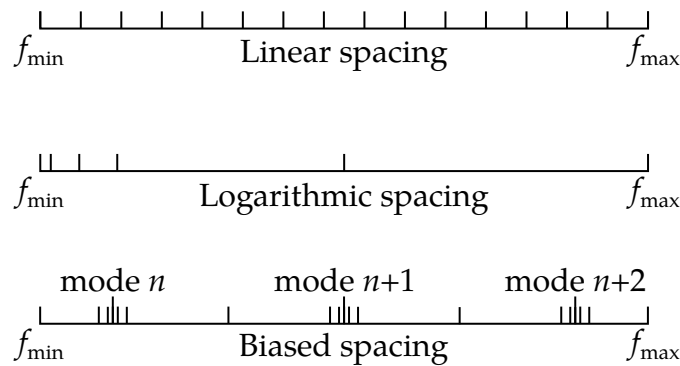

Figure 16-3. Spacing options of the frequency points.
- a) The first method is to define FMIN, FMAX, NFREQ, and FSPACE. FMIN and FMAX specify the frequency range of interest, and NFREQ specifies the number of frequencies at which results are required. FSPACE specifies the type of frequency spacing (linear, logarithmic, biased, or eigenfrequencies only) to be used. These frequency points for which results are required can be spaced equally along the frequency axis (on a linear or logarithmic scale), be biased toward the eigenfrequencies (the frequency points are placed closer together at eigenfrequencies in the frequency range) to obtain the detailed definition of the response close to resonance frequencies, or be just the eigenfrequencies in the frequency range defined by FMIN and FMAX. See Figure 16-3.